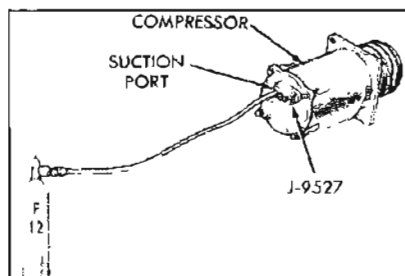

Figure 11-58—Leak Testing Shaft Seal and Seal Seat O-Ring
13. Attach Compressor Leak Test Fixture (J-9527) on rear head of compressor and connect gauge charging lines as shown in Figure 11-58. Pressurize suction